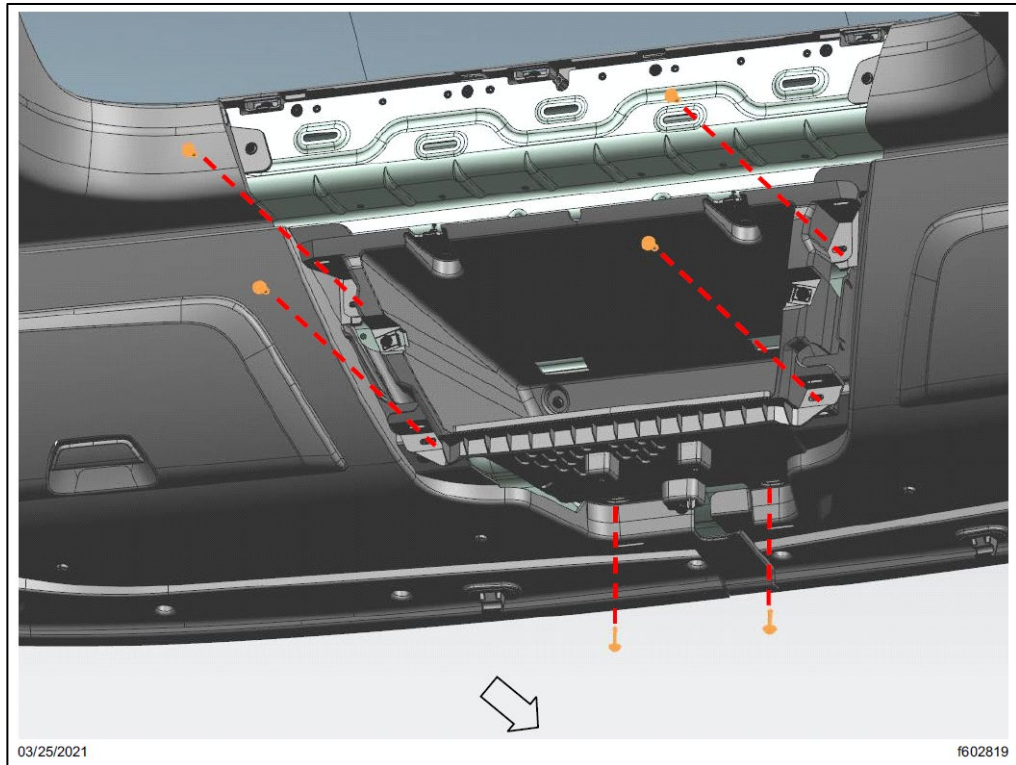

Fig. 50, Fasteners That Attach the Center Storage Bin to the LH and RH Overhead Storage Assemblies
- 8.7. Remove the six fasteners that attach the center storage bin to the LH and RH overhead storage assemblies. Remove the center storage bin from the vehicle. See Fig. 50.